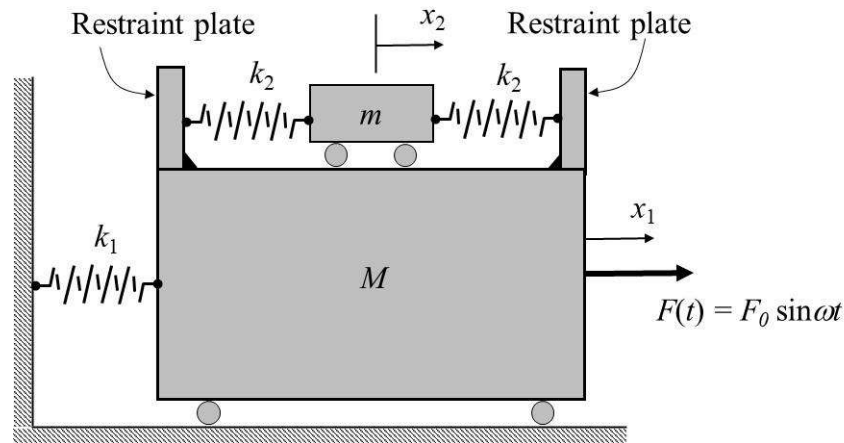

Figure 5
4. Figure 5 shows a 2-DOF system wherein a rigid block of mass  $M$  is roller supported at its bottom side and carries a smaller sized roller-supported block of mass  $m$  on its top side. The horizontal motions of the blocks are restrained by the three springs the stiffness of which are as shown. The mass  $M$  includes the masses of the two restraint plates shown. Assume all the parts are rigid except the springs. Assume the rollers are of negligible mass in comparison with mass  $M$  and  $m$ . Ignore friction at all joints and contacting surfaces.